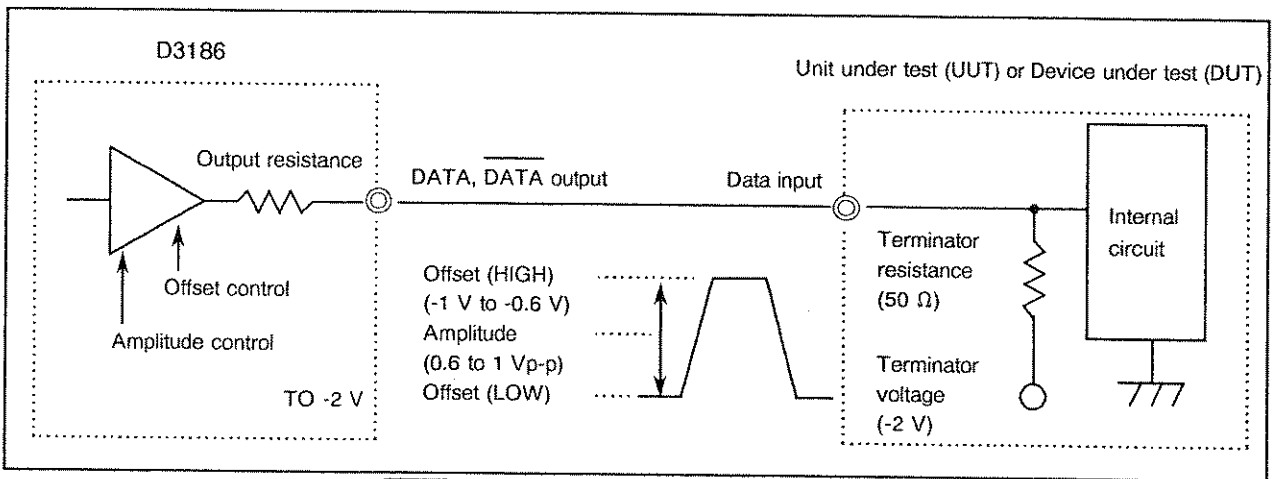

Figure 4-2 DATA and DATA Output, DC Connection, -2 V Termination, and ECL Level
- (2) When the UUT/DUT data input connection is DC and the terminator voltage is -2 V. ECL level (see Figure 4-2.)